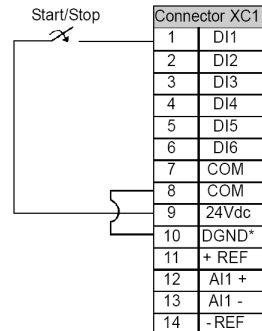

Figure 3 – 2 Wire Start/Stop
**Control Wiring:** Verify there is a jumper between XC1-8 and XC1-10 or the inverter will not work. Start/Stop switch is N.O. (normally open) and is connected as shown in Figure 3.